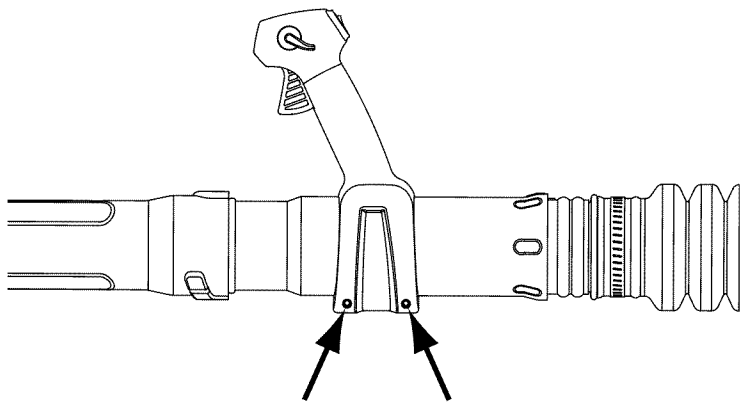

Fig. 8
2. Using a Torx T-20 Torx screwdriver, tighten the two screws at the bottom of the throttle grip (Fig. 8).